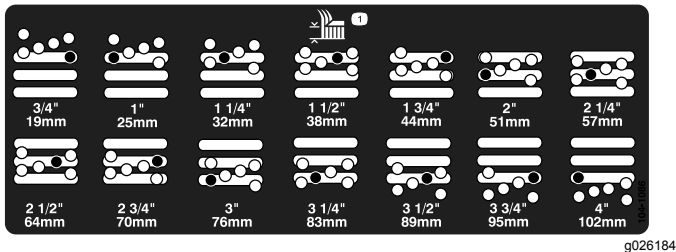

Figure 9
- Move the chamber to the desired height-of-cut and install a spacer into the designated height-of-cut hole and slot (Figure 9).